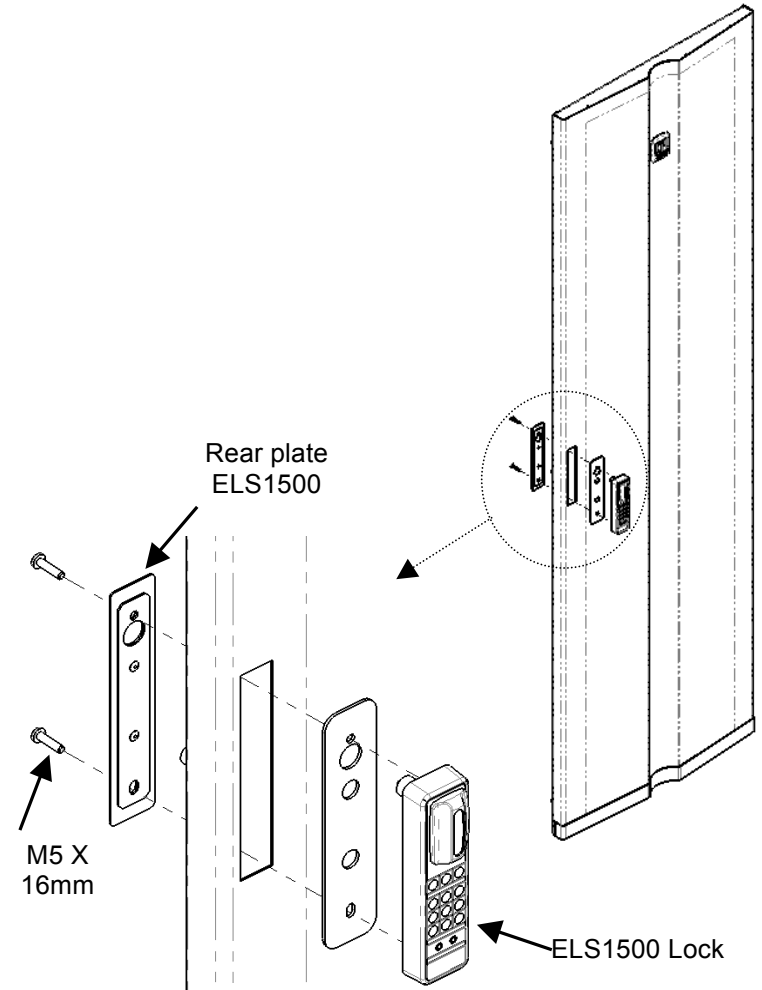

Fig. 7
2. Place the ELS1500 lock into the Front plate border on the Global Frame door with the lock spindle orientation up and rear plate from other side of door.(Fig.7)